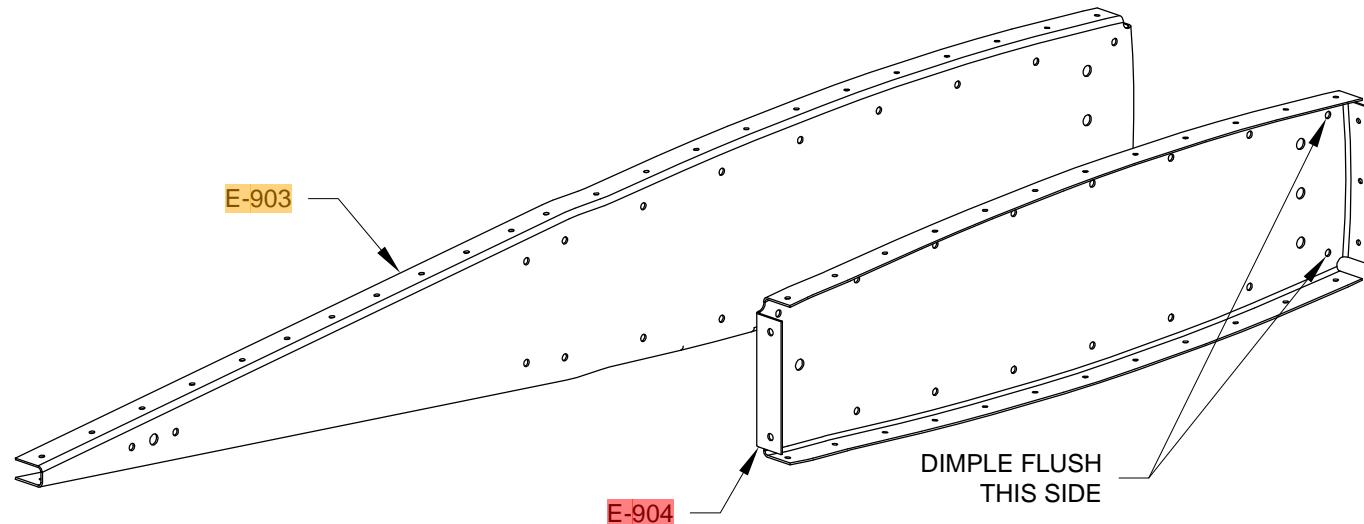

FIGURE 4: DIMPLING THE TIP RIBS
Step 4: Dimple the two holes, indicated in Figure 4, in the web of the E-904 Inboard Tip Rib for 1/8" flush rivets.
Step 8: Foam ribs are bonded to the trailing edge of the E-1001A & B Skins in a later step. The bonding agent (fuel tank sealant) requires a clean, scuffed surface for proper adhesion. To accomplish this, mask the inside surfaces of the E-1001A & B Skins around the locations for the trailing edge ribs. (The rib locations can be found on Page 9-14, Figure 4.) Scuff the skins in the locations of the ribs with 150 grit aluminum oxide sandpaper, clean the scuffed area with acetone until all sanding residue is removed, then remove the masking.